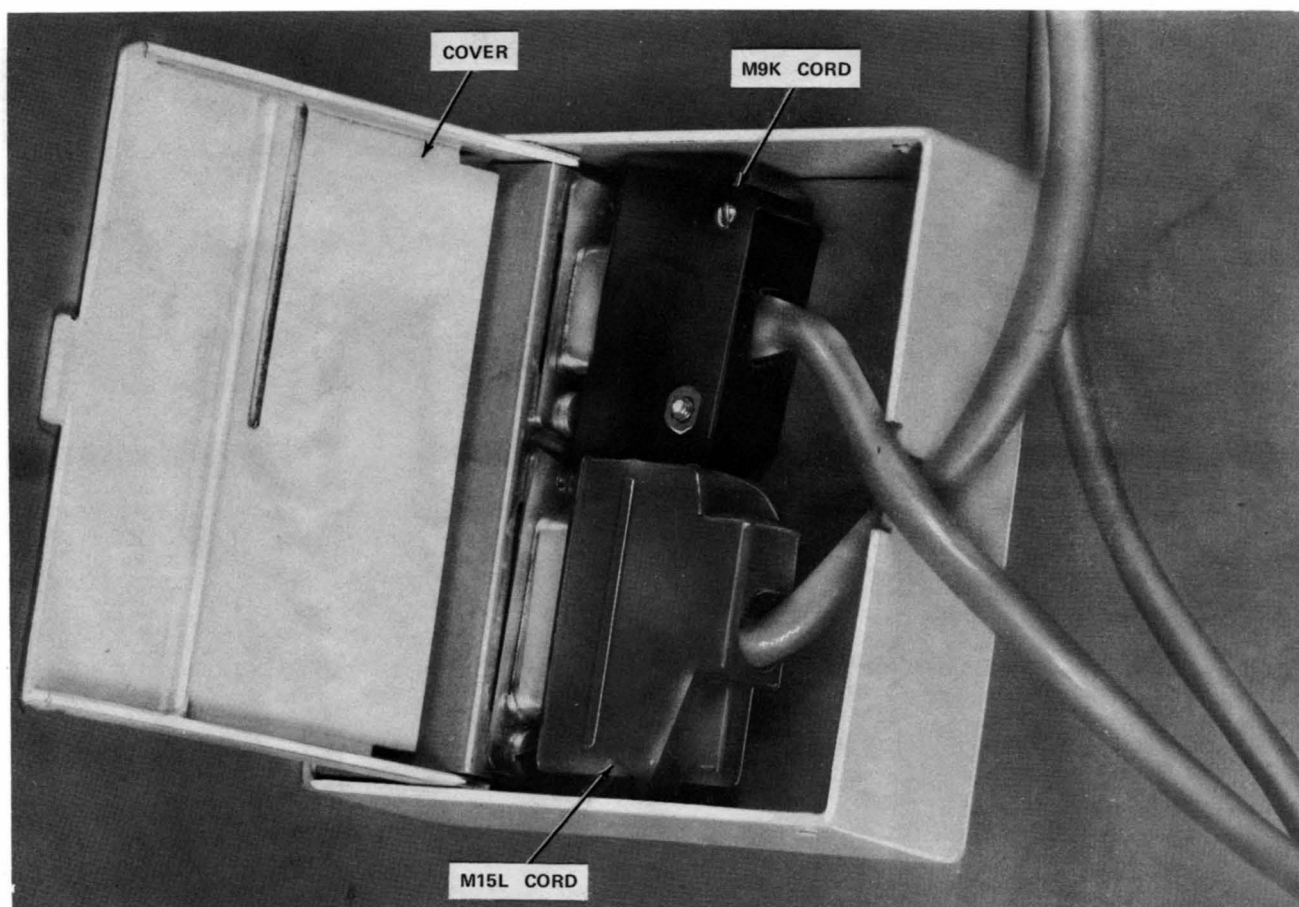

Fig. 8—Cover Open on Bottom of 106A Control Unit With M9K and M15L Cords Connected
- (8) Connect the M9K cord into the remaining connector of the 106A control unit (Fig. 8) and close bottom cover.